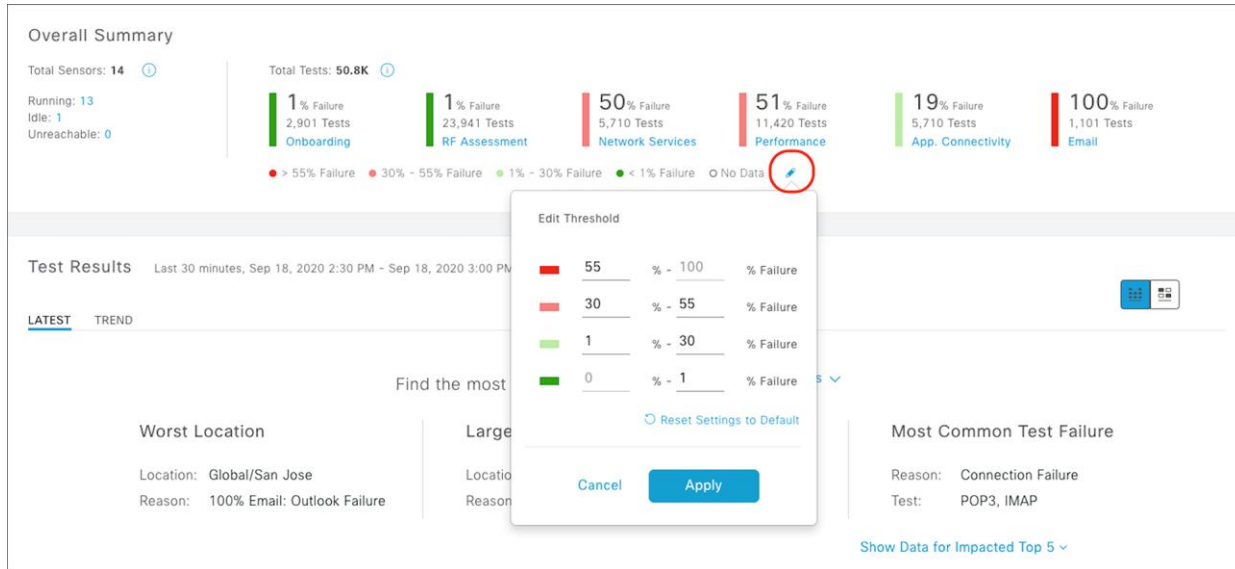

Figure 93.
The color-coded thresholds group the failed cases into certain percentage ranges and are indicated by four different colors (Figure 93).
- To customize the color-coded thresholds, click the pen button on the bottom right of the Overall Summary dashlet, make your change, and then click Apply (Figure 93).